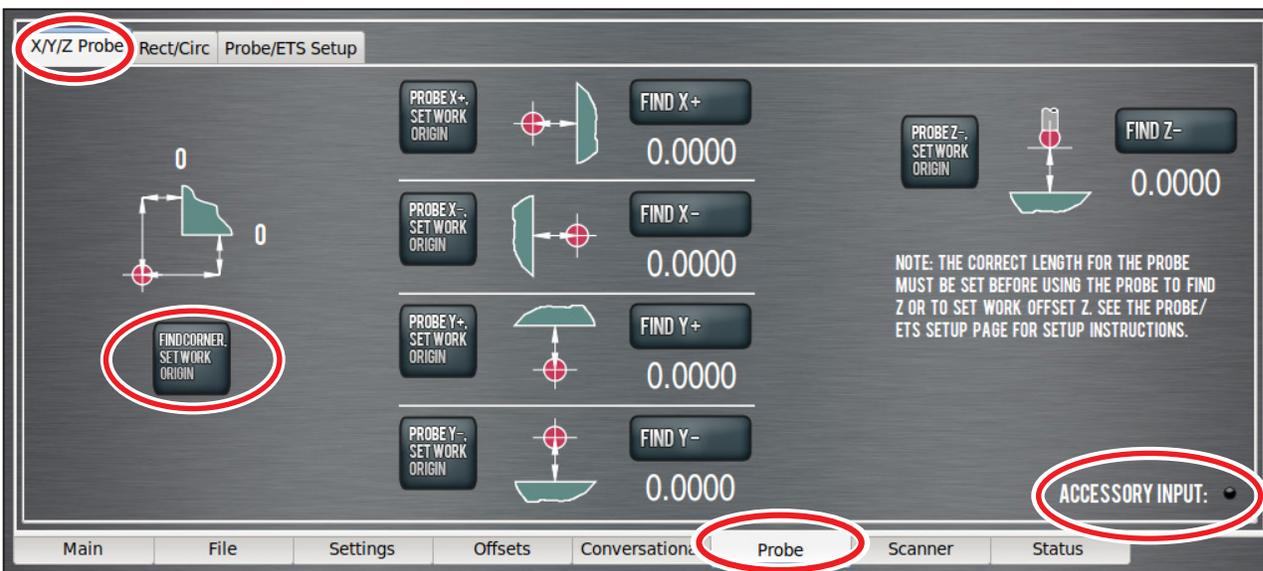

Figure 6.32
**NOTE:** Check that probe polarity is set correctly on Settings screen (before using the probing buttons) by pressing probe tip while looking at Accessory Input LED on Probe screen (see **Figure 6.32**).
The *X/Y/Z Probe* tab of the *Probe* notebook allows the user to quickly touch off a workpiece or vise jaw to find that feature's location in current work offset coordinates, or to touch off that feature and set the work offset zero to the feature's surface (see **Figure 6.32**). The *Find Corner, Set Work Origin* button is used to probe the lower left corner of a vise jaw or rectangular workpiece and set that corner to X/Y zero. To use this button, first position the probe below the surface of the vise jaw and roughly 1" away from the vice jaw corner in X and Y (see **Figure 6.33**). Upon completion of the probing moves, the current active work offset system (e.g. G54) is set such that the vise jaw corner is 0, 0 (the X/Y origin).